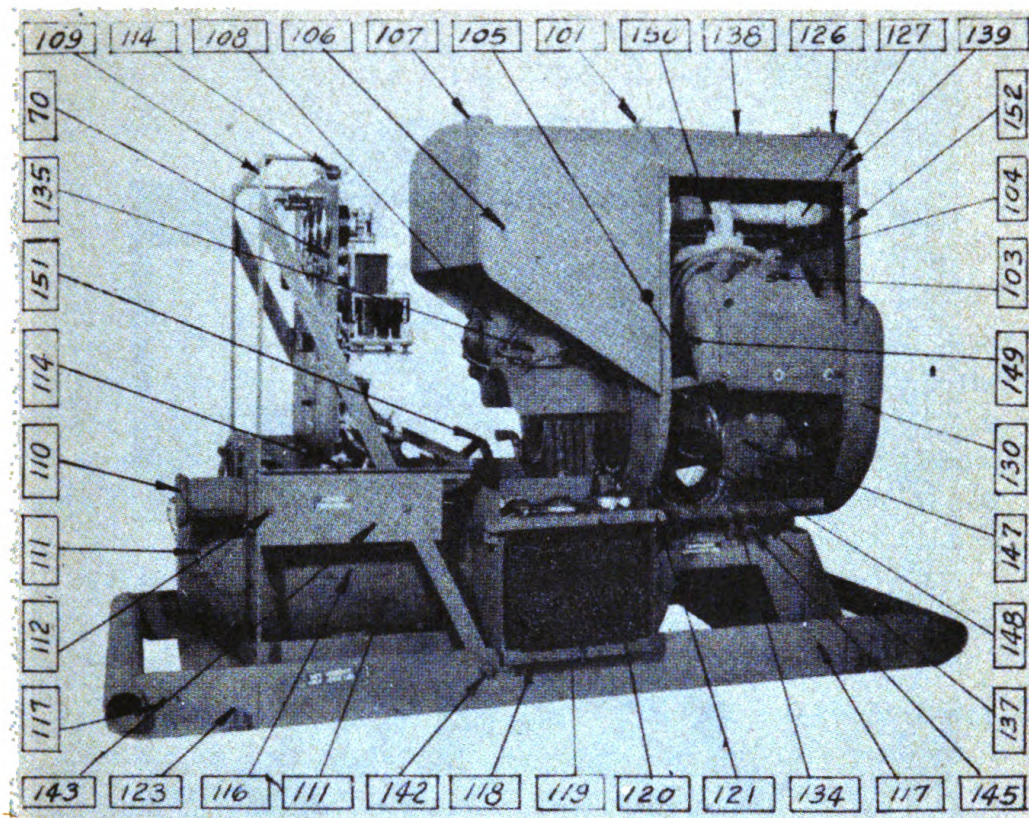
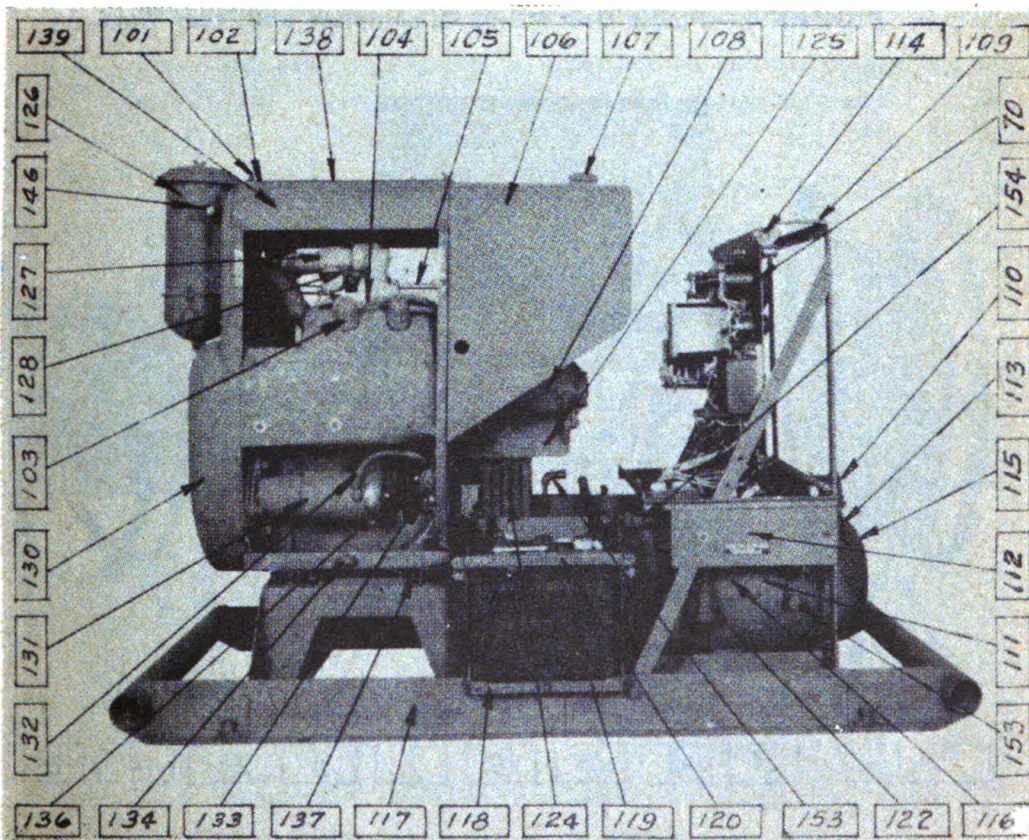
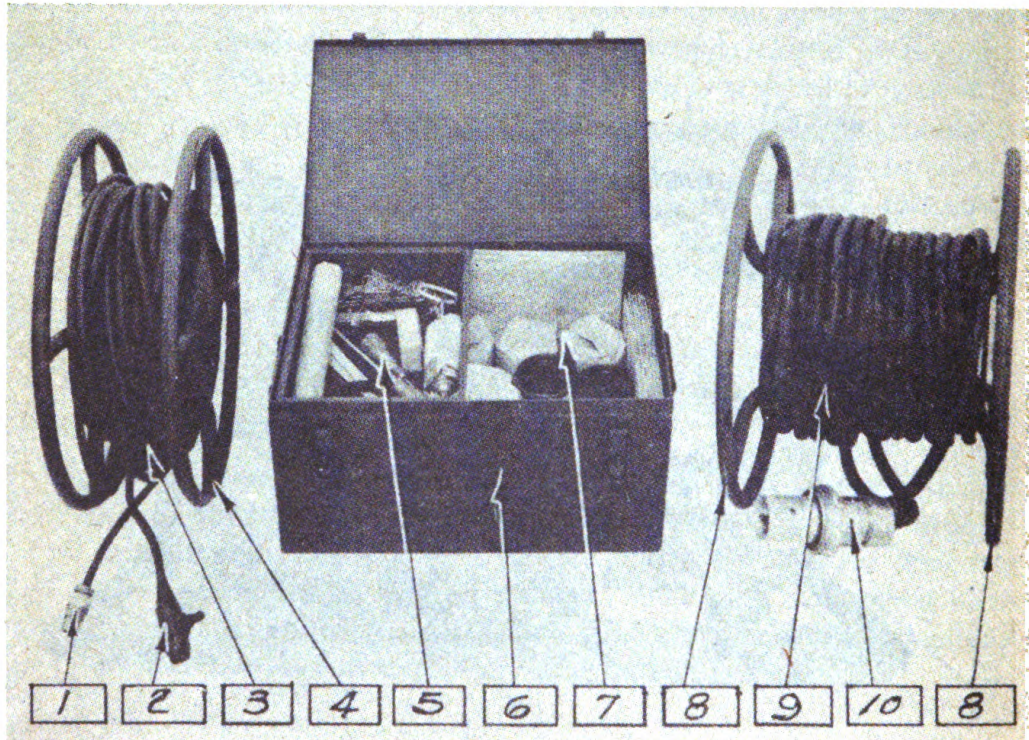
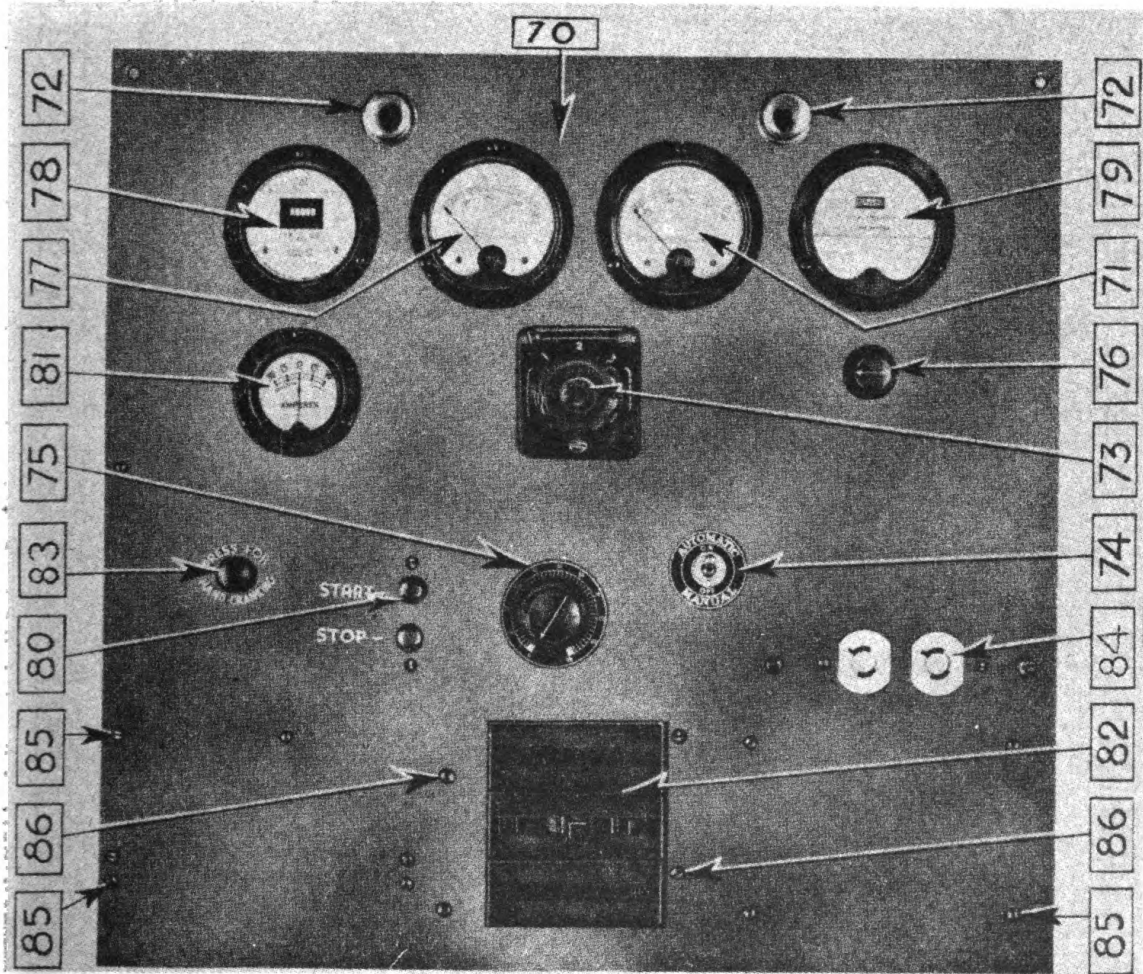

FIGURE 2.—Power Unit PE-99-G, right side view.
FIGURE 3.—Power Unit PE-99-G, left side view.
FIGURE 5.—Cable reels, tool box.
FIGURE 7.—Instrument panel, front view.
- j. **Panel Board.** (Figures 7 and 8)
- (1) The panel board mounted inside the control cabinet is for the purpose of concentrating at one point all of the controls and instruments used in connection with the operation of this unit. All such functions as starting, stopping, applying load, etc., originate at this control panel.
- (2) The instruments and controls mounted on this panel, as indicated on Figure 7, and their functions are as follows:
- (a) Voltmeter (77) is for measuring the electrical pressure being developed by the A.C. Generator. This is normally 120 volts.
- (b) The Frequency Meter (78) is for measuring the frequency in cycles of the A.C. Generator. This is normally 60 cycles.
- (c) The Elapsed Time Meter (79) indicates the total hours the unit has been in actual operation.
- (d) Panel Lights (72) are for lighting the panel in darkness.
- (e) Voltmeter Selector Switch (73) is for transferring the reading of the Voltmeter (77) from one phase to another of the A.C. Generator.
- (f) Battery Charging Ammeter (81) measures the charging current being supplied by the battery generator.
- (g) Start-Stop Switch (80) is for starting and stopping the unit.
- (h) Exciter Field Rheostat (75) is for manually controlling the terminal voltage of the A.C. Generator. Turning to right increases voltage; turning to left decreases voltage.
- (i) Voltage Regulator Switch (74) is for placing the automatic voltage regulator in operation. When this switch is on, the voltage is automatically controlled; when this switch is off, the voltage is controlled manually by the Field Rheostat (75).
- (j) Main Circuit Breaker (82) is for connecting and disconnecting the generator to and from the main output receptacle or terminal block.
- (k) Voltage Regulator Control Rheostat (76) is for adjusting the automatic voltage regulator to maintain the desired voltage.
- (l) Manual Reset Control (83) is used for tripping the stopping relay in case it is desired to crank the unit manually.
- (m) Duplex Convenience Receptacle (84) is for convenience in taking comparatively light loads from the unit without using the main power cable.
- (n) A.C. Ammeter (71) is for the purpose of measuring the current flow in each phase of the A.C. Generator. Full load on this unit is 36 amperes, and it should not be operated under any circumstances when these meters read in excess of this value.
- (1) This structure is of welded steel construction and may be removed in its entirety from the unit proper by disconnecting the wires from the terminal blocks and removing the four bolts by which it is attached to the base assembly.
- (2) The following parts are attached to this structure and their descriptions and functions are as follows:
- (a) Main Power Receptacle (No. 110, Fig. 2) is for the purpose of delivering the full power developed by this unit. The Plug (No. 10, Fig. 5) which is attached to the end of the main power cable fits this receptacle and should be used at all times, except when using a cable not fitted with this type plug. Then it is permissible to take full power from the unit from the output terminal studs (No. 143, Fig. 2) located on the right-hand under side of this structure.
- (b) Remote Control Receptacle (No. 113, Fig. 3) is for connecting the remote control power cable (No. 3, Fig. 5) to the unit. This cable has a plug attached which fits this receptacle. This connection should always be used, except in cases where a remote power cable is used not incorporating the proper plug. Under these conditions, the cable may be attached directly to the remote control terminal block located on the left lower side of the main control cabinet structure.
- (4) After permitting the electrolyte solution to cool all of the battery cells should be equalized by the addition or removal of electrolyte. If the reading of a cell is found to be high, remove electrolyte and add distilled water to equalize the solution with that in the other cells. If the reading of any cell is found to be low, remove some of the solution and add 1300 electrolyte until that cell has been equalized with the other cells of the battery. Place the battery back on charge for a few hours after equalizing the cells to thoroughly mix the solution. After allowing the battery to cool, it may be placed in service.
- l. Should it become desirable to control the voltage manually, the automatic voltage regulator can be rendered inoperative by switching the voltage regulator switch to OFF. This will make it possible to entirely control the voltage by means of the exciter field rheostat Fig. 7 (75). Turning the rheostat to the right will increase the voltage while turning it to the left will decrease the voltage.
6. **Operation After Starting.** As soon as the engine has started and is up to operating speed, check the A.C. voltmeter Figure 7 (77) to see if the required voltage is being developed.
- a. If the desired voltage is not being developed, check to see if the **VOLTAGE REGULATOR SWITCH** Fig. 7 (74) is ON. If it is, either the generator is not turning at the rated speed or the voltage regulator is out of adjustment. In all probability it is the voltage regulator, because the governor is pre-set to maintain a rated speed of 1800 r.p.m. regardless of load. Before attempting any adjustments on the voltage regulator refer to regulator instruction, Paragraph 26.
- b. As quickly as the unit indicates that it is functioning properly, the load can be applied either by plugging into the side convenience receptacle, or by connecting directly to the a.c. output terminals Fig. 2, (143) on the right side of the unit and moving the circuit breaker handle to ON.